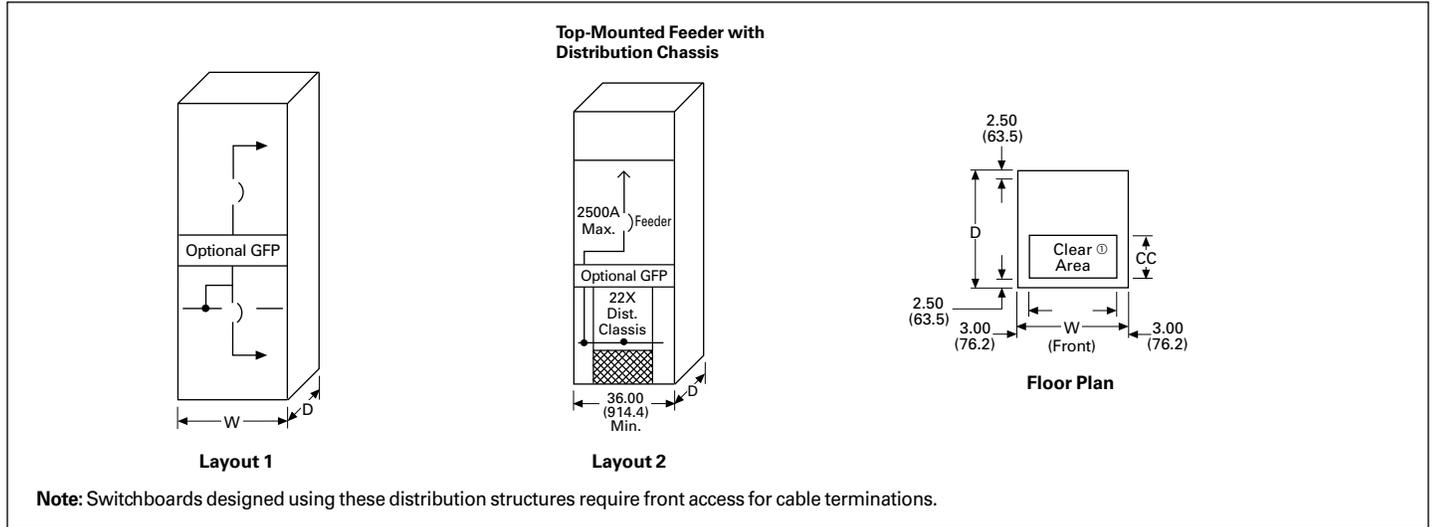

Figure 21.1-7. Individually Mounted Distribution Layouts
Table 21.1-23. Stacked Individually Mounted Distribution Structure Sizes for Figure 21.1-7 Layout 1 Only—Dimensions in Inches (mm) ②